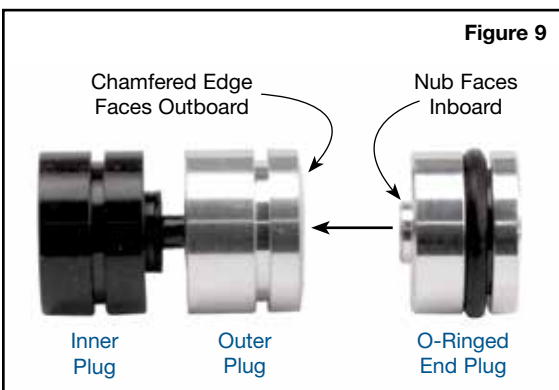

Figure 9
- Install Sonnax switch valve plugs. Outer plug has a slight chamfered edge on one side; this side must face outward (Figure 9).